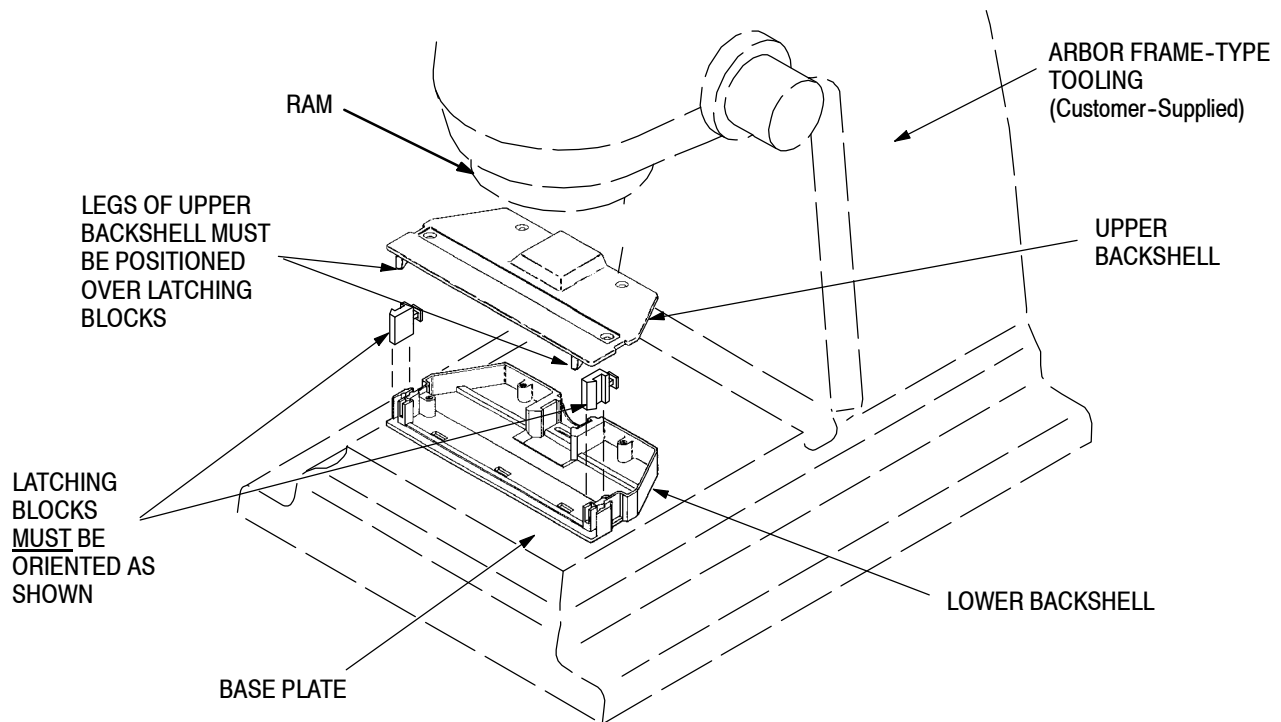

Figure 7
- a. Place latching block inserts in lower backshell slots, making certain that they are oriented outward as shown in Figure 7.
b. Lay the upper backshell over the lower backshell with the legs of the upper backshell positioned over the latching block inserts as shown in Figure 7.